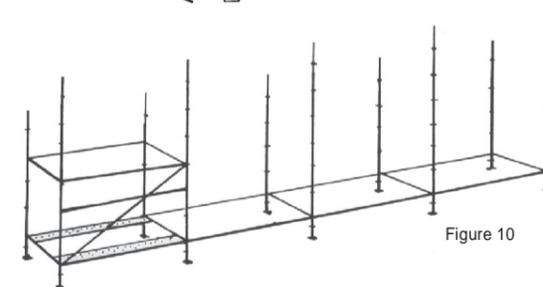

Figure 10
**11** Now complete the base layout by adding bays horizontally, levelling and positioning each bay as you go before tightening cups. Continue the 2m and 3m Standard combination for the full run. Refer Figure 10.